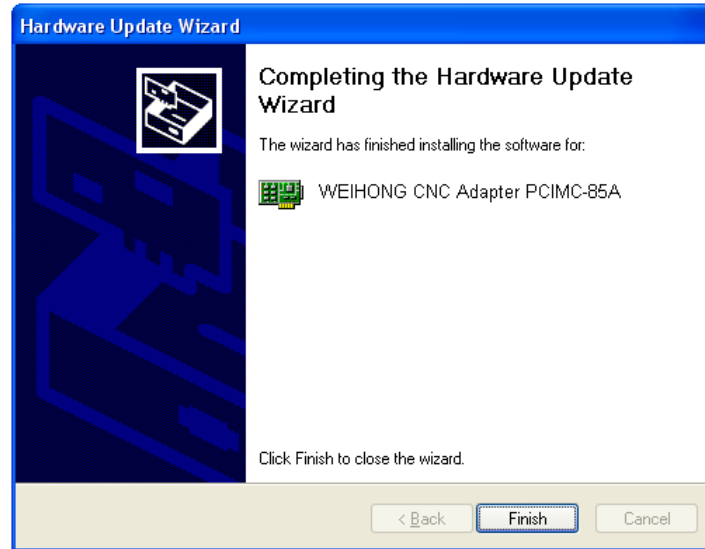

Fig. 2-15 Driver update completed
- When the updating is finished, a dialog as shown in Fig. 2-15 will pop up. Click “Finish” to complete the update of hardware driver.